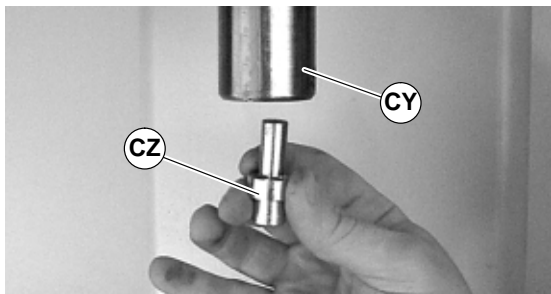

Figure 44
2. Install bearing insertion tool (CZ of Figure 44), part number 25–10, into arbor press (CY) or similar device.